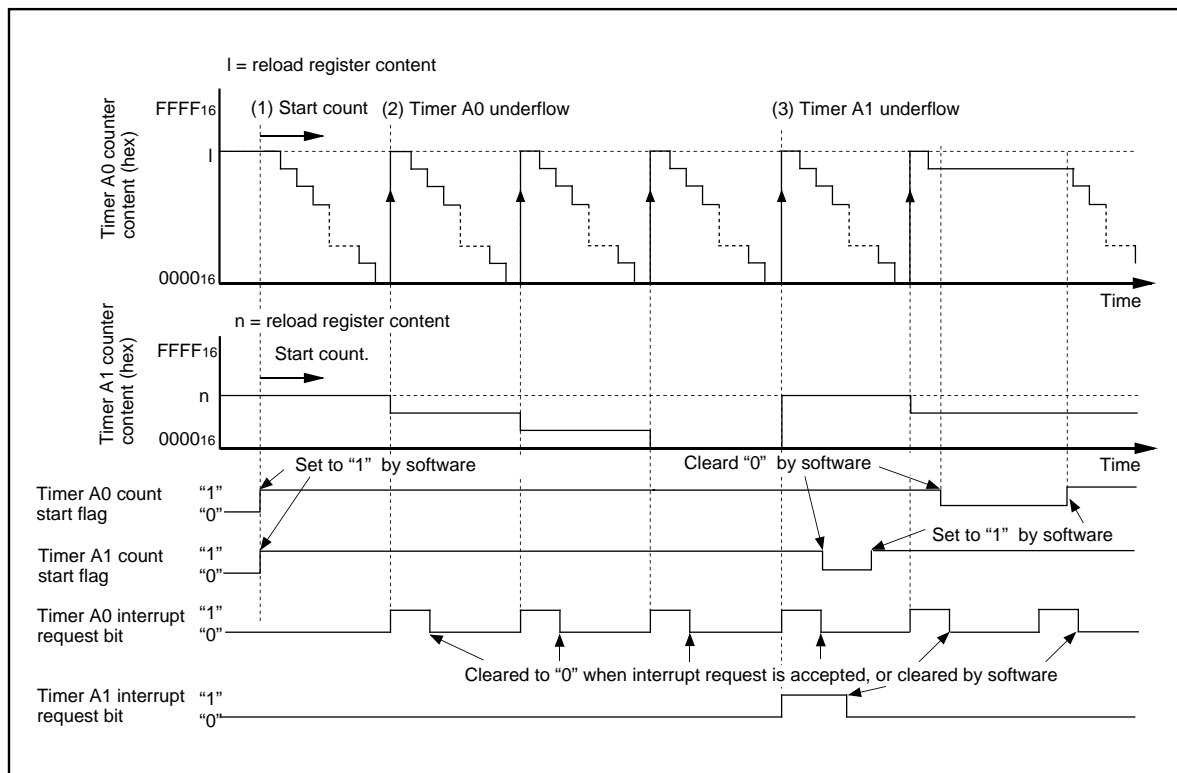
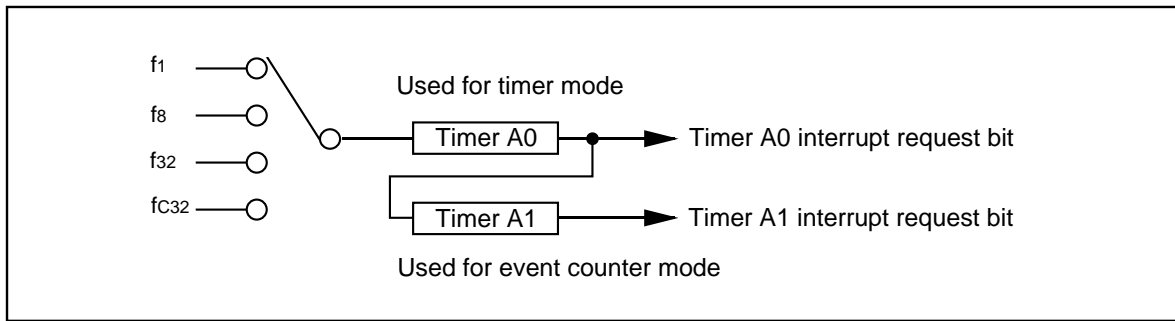

Figure 3.1.1. Operation timing of long-period timers
Figure 3.1.2. Connection diagram of long-period timers
**Overview** In this process, Timer A0 and Timer A1 are connected to make a 16-bit timer with a 16-bit prescaler. Figure 3.1.1 shows the operation timing, Figure 3.1.2 shows the connection diagram, and Figures 3.1.3 and 3.1.4 show the set-up procedure.